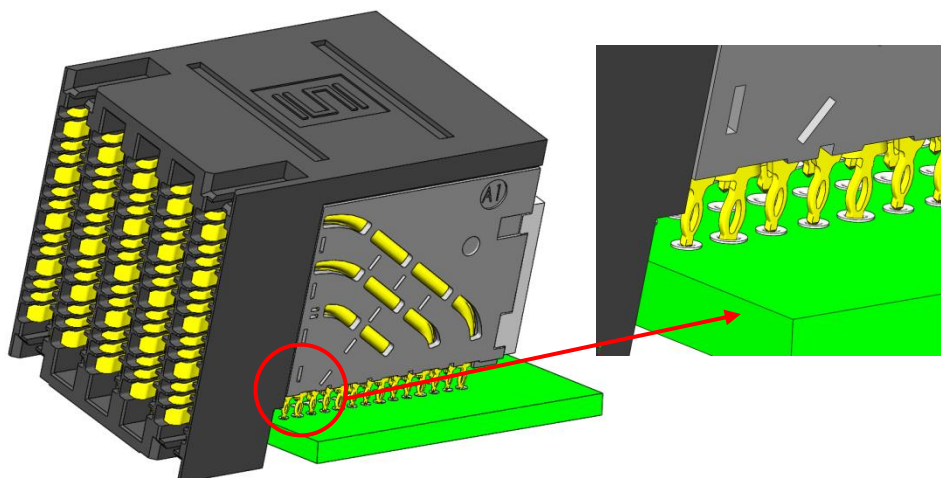

Figure 23: Right Column EONs Being Aligned With PCB Vias
- Begin by holding the connector at a slight angle so that the tips of the outside column press fit tails, left or right, can be inserted into either the first or last column of via holes on the PCB. See Figure 23.